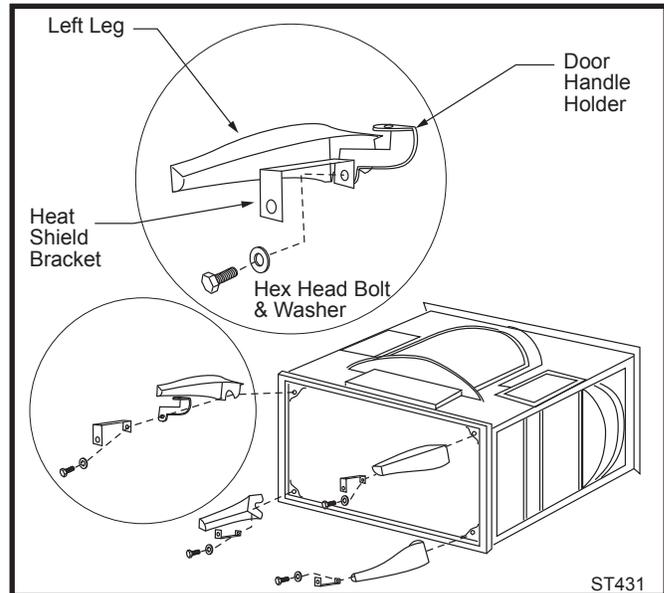
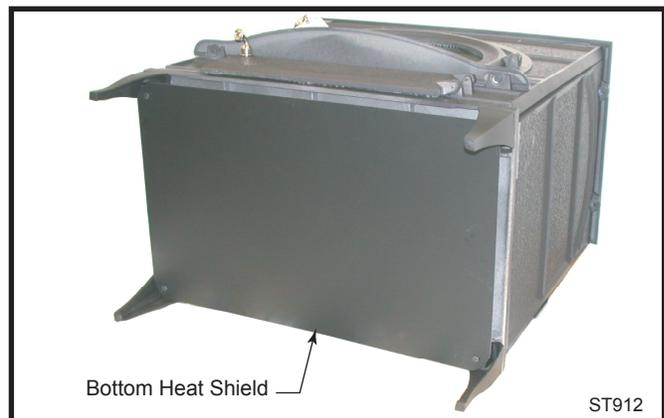

Fig. 19 To attach the legs, remove the bolts from the stove bottom and reassemble with the handle holder, heat shield brackets (if necessary) and washers.
Fig. 20 Bottom heat shield in place on bottom of stove.
- door handle insert holder on the bolt for the left rear or either front leg. (Fig. 19)
3. Slide the leg into position around the bolt and fasten it finger-tight. Repeat this process for all four (4) legs.
4. Fasten, finger-tight, the bottom heat shield to the brackets using the four (4) 1/4-20 x 1/2" bolts with nuts.
5. Adjust the bracket's position on each leg as needed until the shield fits. (Fig. 20)